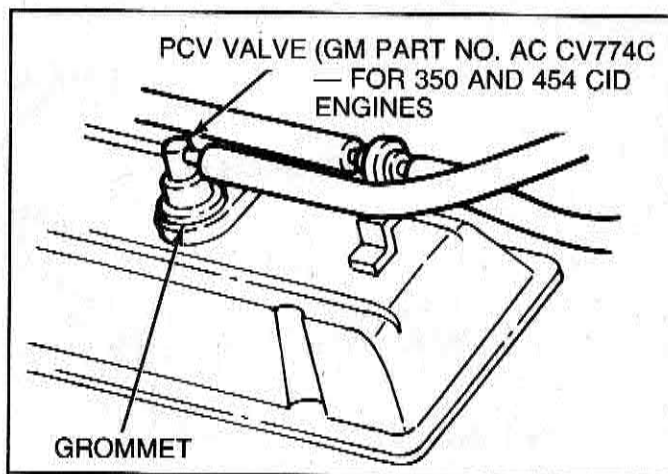

Figure 7-64 — PCV Valve
4. Shut off engine and remove PCV valve. Shake valve and listen for the rattle of check needle inside the valve. If valve does not rattle, replace valve (Figure 7-64). Remove PCV valve from rubber hose and look up the end of the hose using a flashlight. If the hose appears coated "oil wet," replace the PCV valve.